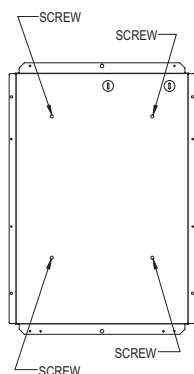

FIG. 7
6. Place the frame against the wall, level it and tighten it with four (4) wood screws (not included) into the holes provided for this purpose (see figure 7).